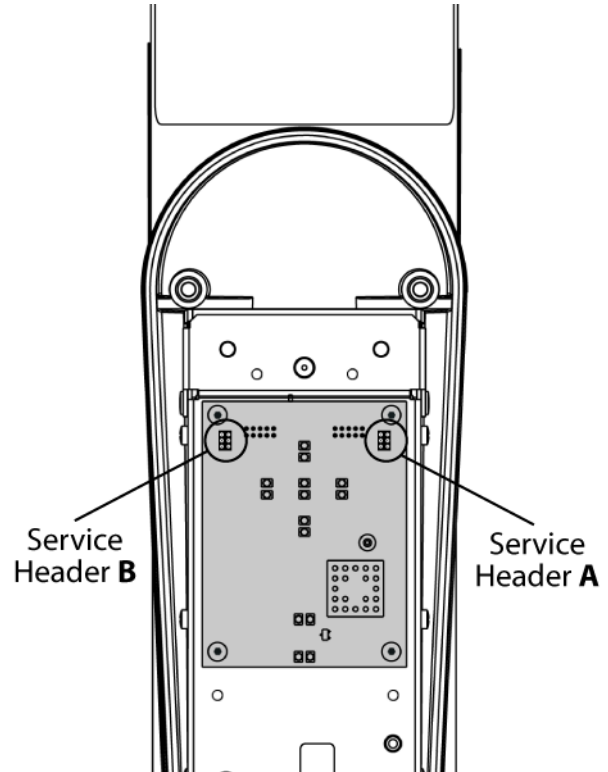

Figure 9-7: Connect Diagnostic Equipment to Connectors on Console Radio
6. When instructed by Diagnostics manual, connect diagnostic equipment to Service Header A and Service Header B connectors on console radio. See Figure 9-7.